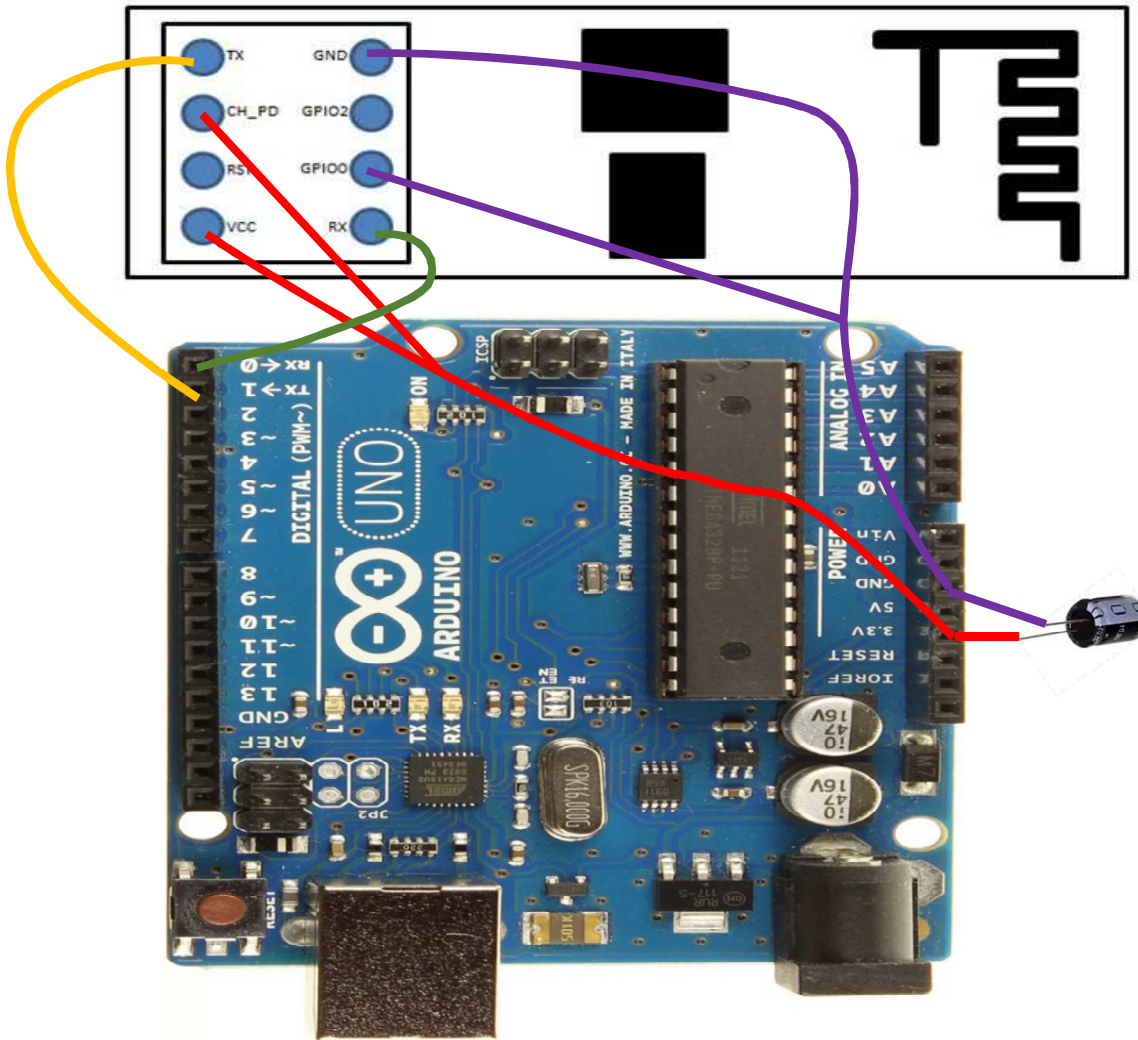

Figure 6: ESP8266-01 Connections for *Flashing*.
Fig. 6 shows the physical connections used for programming (*flashing*) the ESP8266-01 with an Arduino UNO board.
The pin interconnections for the ESP8266-07 are analogous to that shown in Fig. 6 above, i.e. with:
Once the Arduino board is configured so that it does not access the serial pins, connect the pins as shown in Fig. 6 for the ESP8266-01 (or the corresponding connections for the ESP8266-07) above before turning on the Arduino once again. The sketch in Fig. 8 will be used as a simple example to run in the ESP8266.
- 3) Connect the ESP8266 to the Arduino board as shown in Fig. 6 above, and connect the Arduino board power supply
- 4) Load the “simple” sketch of Fig. 6 above in the Arduino IDE